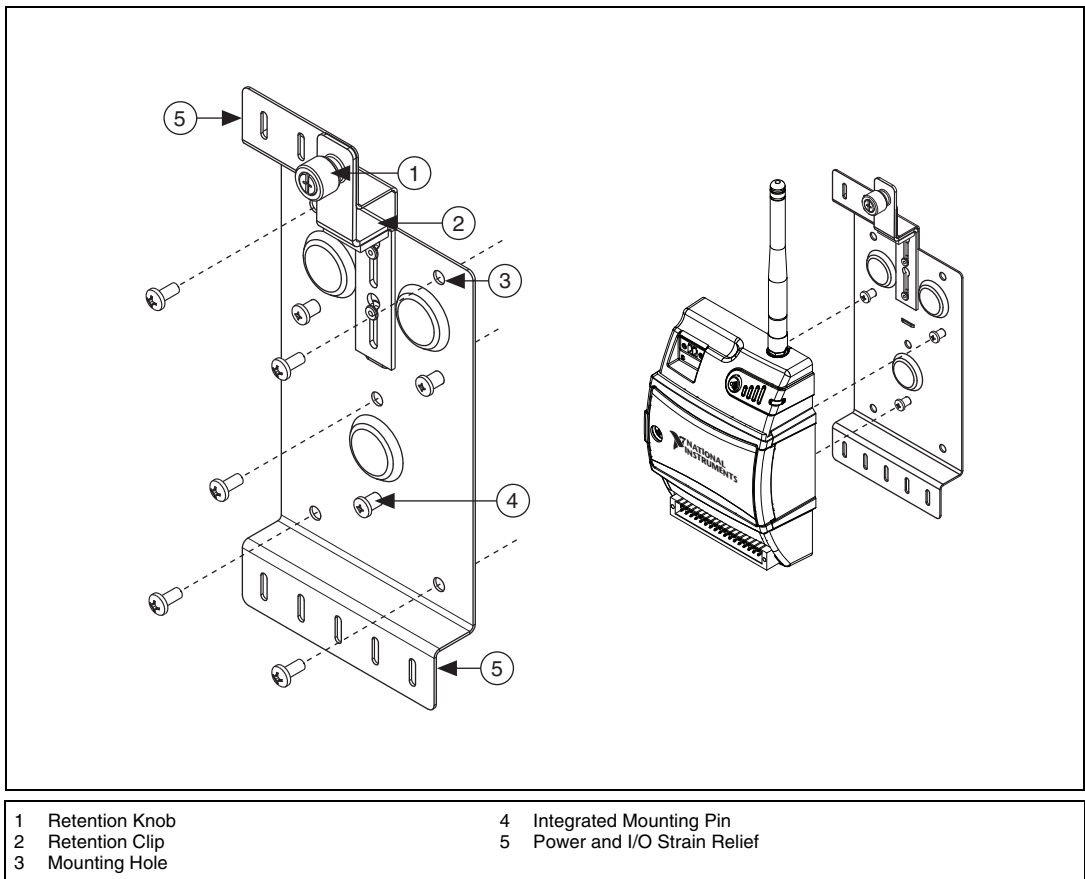

Figure 7. Panel Mount Accessory
Refer to Figure 7 while completing the following steps to mount the NI WSN-3214 on a panel:
2. Slide the NI WSN-3214 device into the panel mount accessory, as shown in Figure 7.